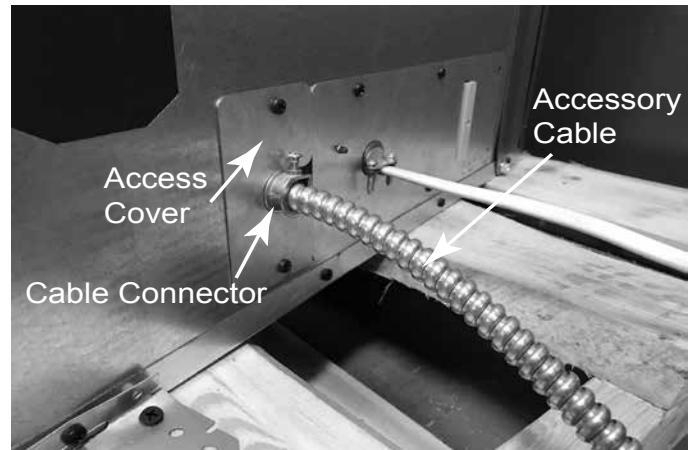

Figure 8.2 Accessory Cable
- Route accessory cable wires through appliance shell and reinstall access cover with (2) screws. See Figure 8.2.